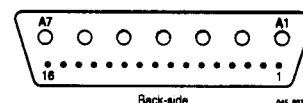

Figure 4-1
- Supply-part: See figure 4.1 of connector-socket of e-box, located at the back of the e-box. Remove display power cable and display video cable from e-box. (Note: without disconnecting the display video cable, the set will go in protection). Make with a wire a robust connection between connection-hole A6 (Vcc, 5 V) and connection-hole 3 (Vrr). Now you can measure: